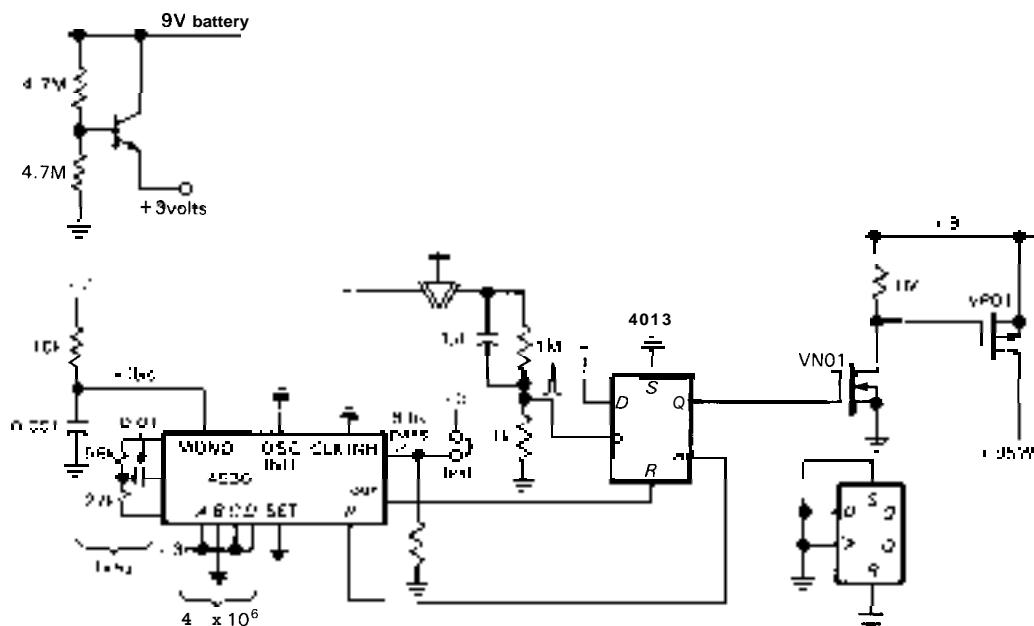

Figure 14.40. "An hour of power."
**9. Time-out power switching.** You can save a lot of power by making sure an instrument is turned off when no one is using it. Figure 14.40 shows a straightforward CMOS **timeout** circuit that turns off the switched +9 volt power an hour after the instrument has been turned on. You might build this into a manual instrument (e.g., a multimeter). It uses a 4536 oscillator/divider/monostable to reset a flip-flop that controls the instrument power. The circuit runs on +3 volts to keep current drain below  $5\mu\text{A}$ . Using the monostable output prevents logic races and runt pulses, and the "8-bypass" line is used to test the circuit by shortening the delay to 15 seconds. MOS switches provide an easy interface with low quiescent power.